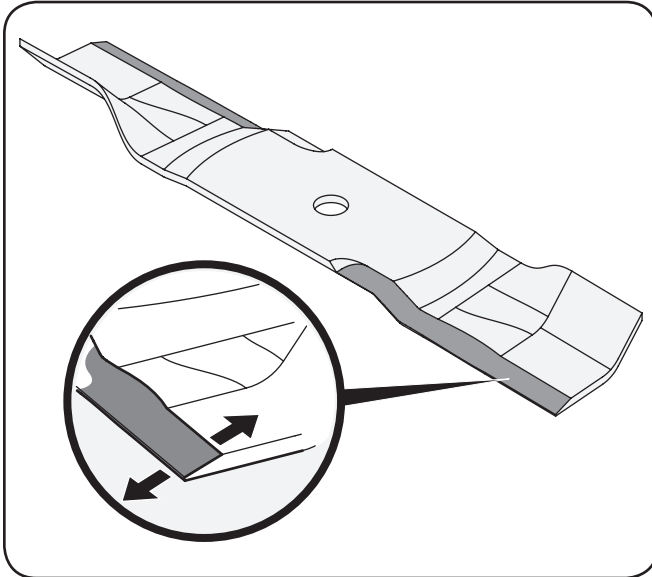

Figure 7-10
3. To properly sharpen the cutting blades, remove equal amounts of metal from both ends of the blades along the cutting edges, parallel to the trailing edge, at a 25°-30° angle. Always grind each cutting blade edge equally to maintain proper blade balance. See Figure 7-10.